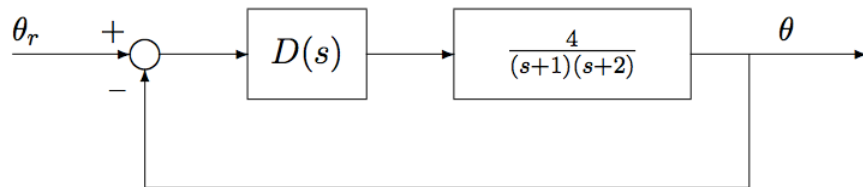

Figure 5: Temperature control system
4. A temperature control system has the block diagram given in Figure 5. The input signal is a voltage and represents the desired temperature, θ_r . Find the steady state error of the system when θ_r is a unit step function and